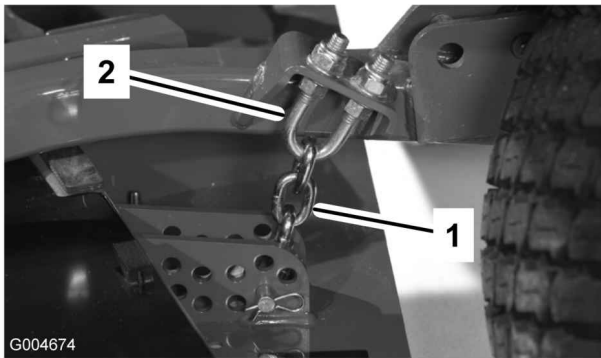

Figure 16
- Remove the hairpin cotter and clevis pin securing the height-of-cut chains to the rear of the cutting unit (Figure 16).